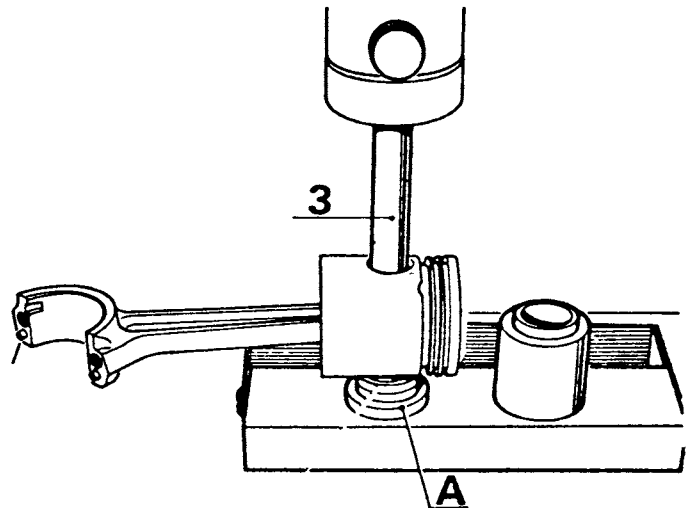

FIGURE 20. REMOVING PISTON PIN
Remove the piston pin on an arbor press using the short guide on the support base (A) and the extracting mandrel (3) (Figure 20).